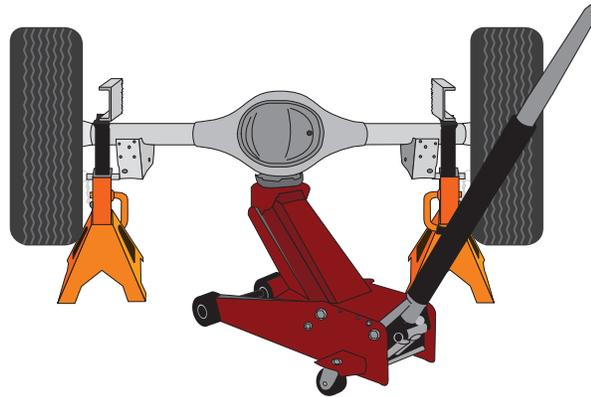

fig. 2
1. Raise the vehicle and support it in a way, using jack stands or equivalent, that the axle can be safely dropped away from the frame. This will need to be done in order for the air spring assemblies to be put into position between the axle and frame (Fig. 2).